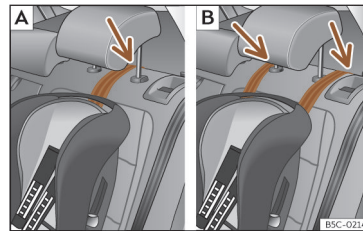

Fig. 42 Rear seats: adjustment and assembly according to the Top Tether belt.
- *Rear seats:* position the belt under the headrest (according to the instructions of the seat itself, lift or remove the headrest if necessary) >>> **Fig. 42.**